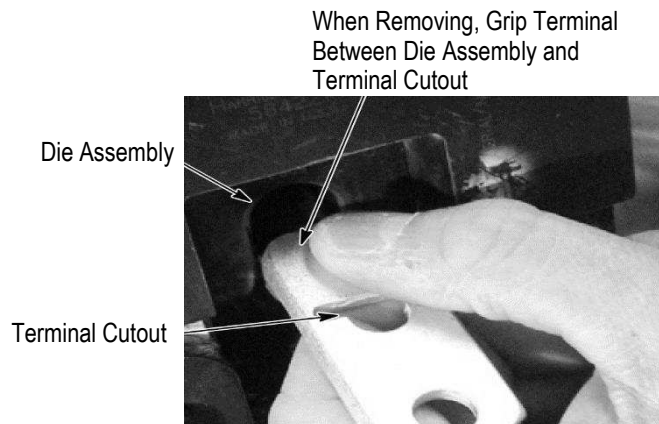

Figure 4
5. Remove the crimped terminal from the die assembly. When removing a terminal from the die assembly, grip it as shown in Figure 4.
6. Remove the crimped terminal from the die assembly. When removing a terminal from the die assembly, grip it as shown in Figure 4.